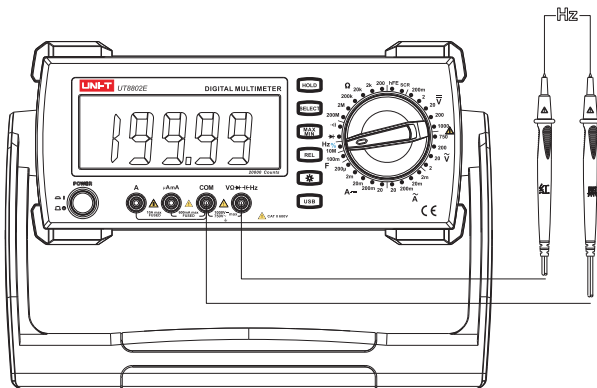

Figure 6
6. Measurement of Frequency (see Figure 6)